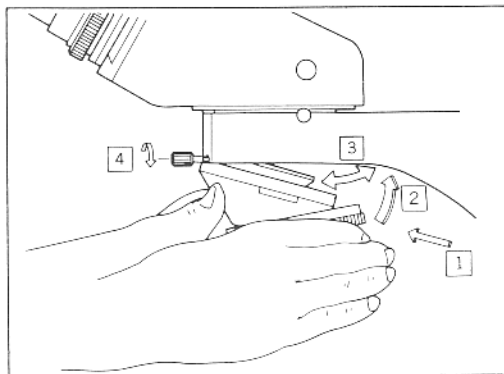

Fig. 11
- 2) Thereupon, lower the stage and tilt the nosepiece with the objectives attached, and press it against the clamp screw, as shown in Fig. 11, seat it to the microscope stand in the horizontal position.